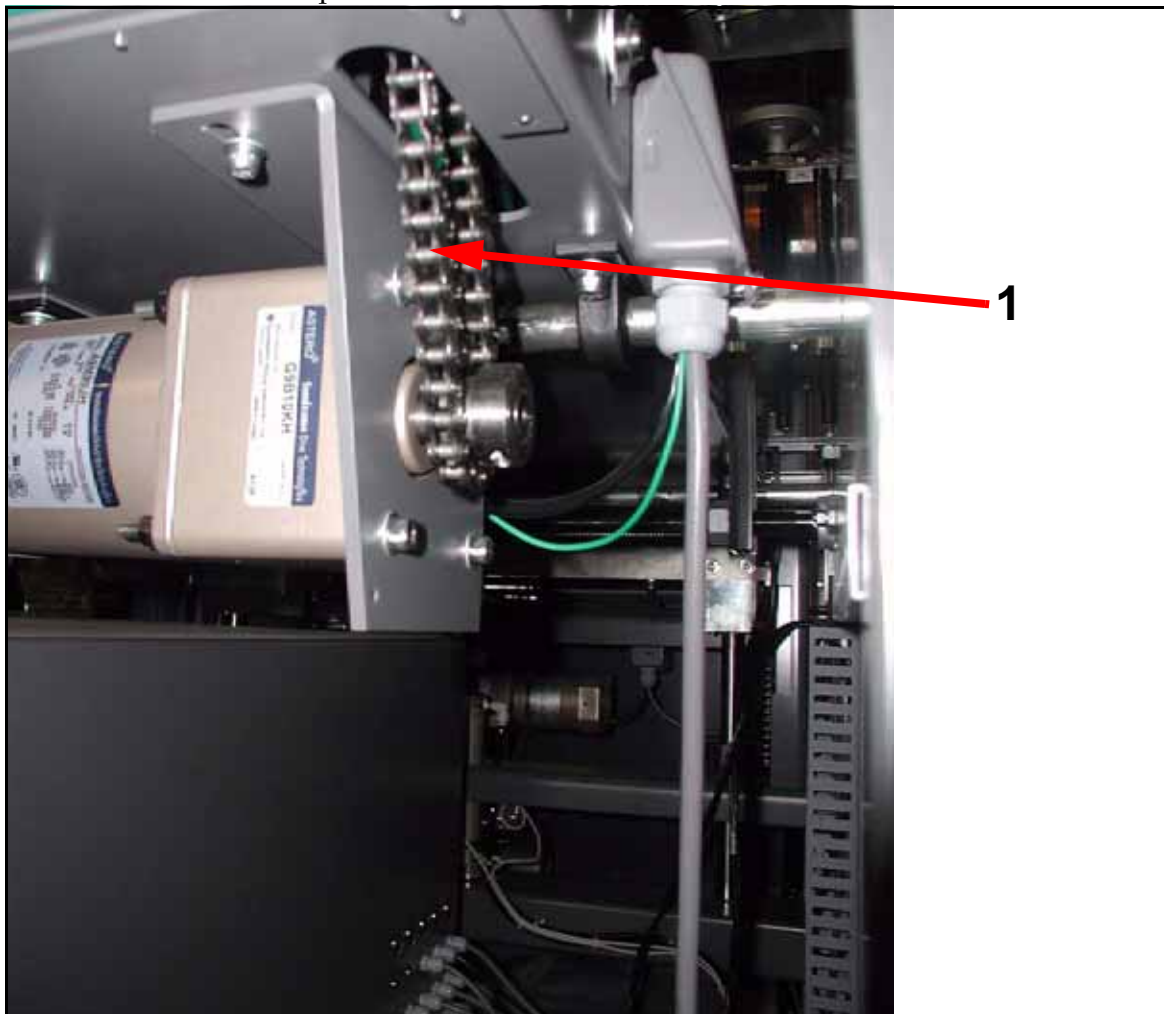

Figure 6-13. Infeed Conveyor Drive Chain
- 2 Use a small paint brush to apply a thin but thorough coat of oil to chain (1 in Figure 6-13).